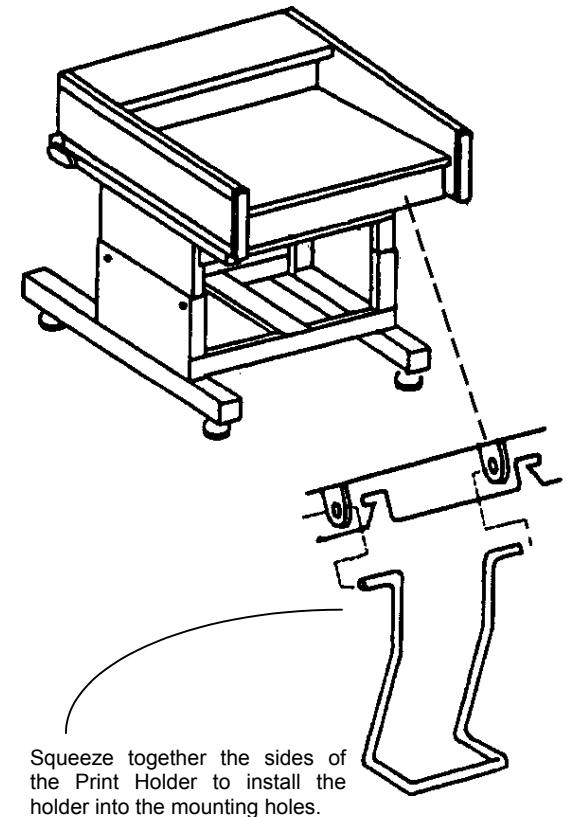

Figure 7. Installation of the Print Holders
12. (Figure 7): Install the four Print Holders to the back of the Stacker.